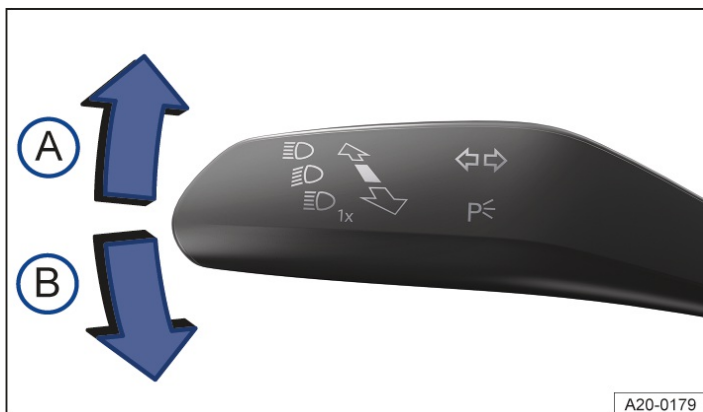

Fig. 1 On the left-hand side of the steering column: turn signal and main beam lever.
2. Move the turn signal and main beam lever from the centre position to the following position → Fig. 1:
- (A) Right-hand parking light P_{R} is switched on.
- (B) Left-hand parking light P_{L} is switched on.